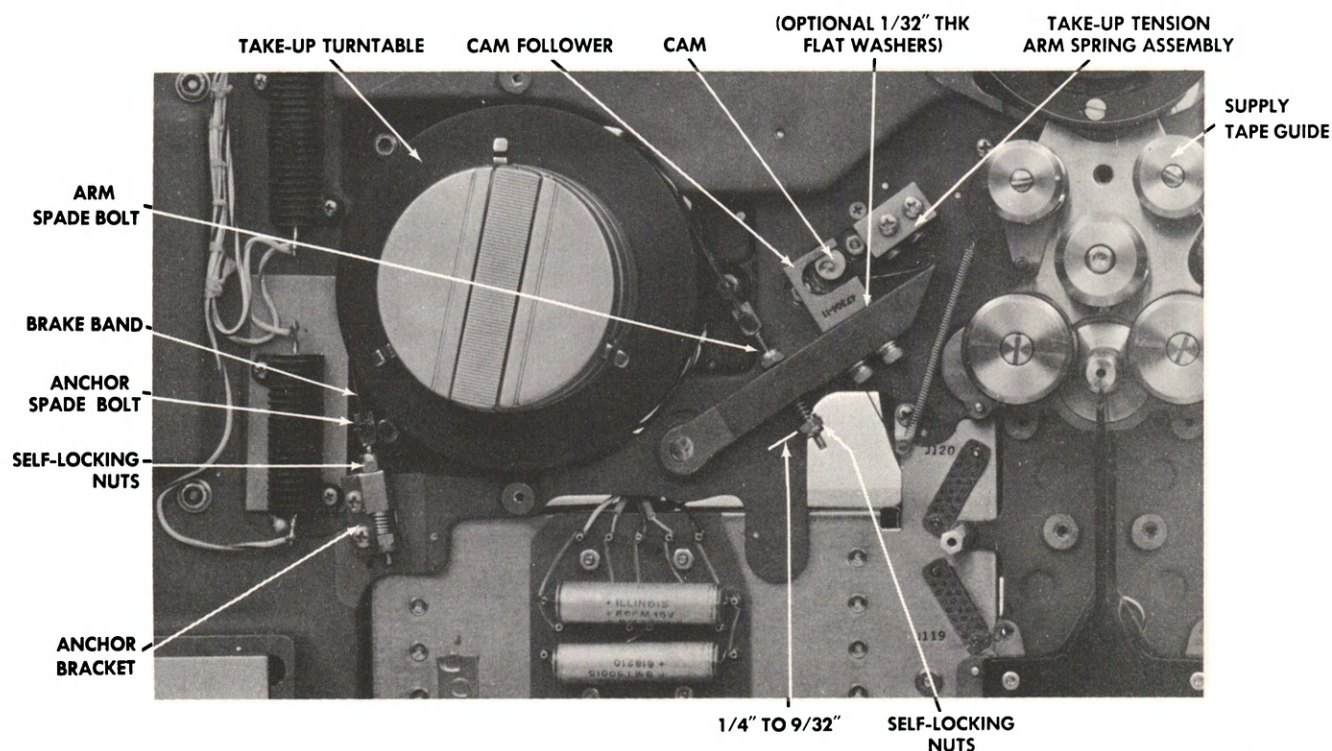

Figure 6-15 Take-up Brake Adjustment
- Step 1: Remove the overlay plate on the take-up side of the transport (see Figure 6-15).